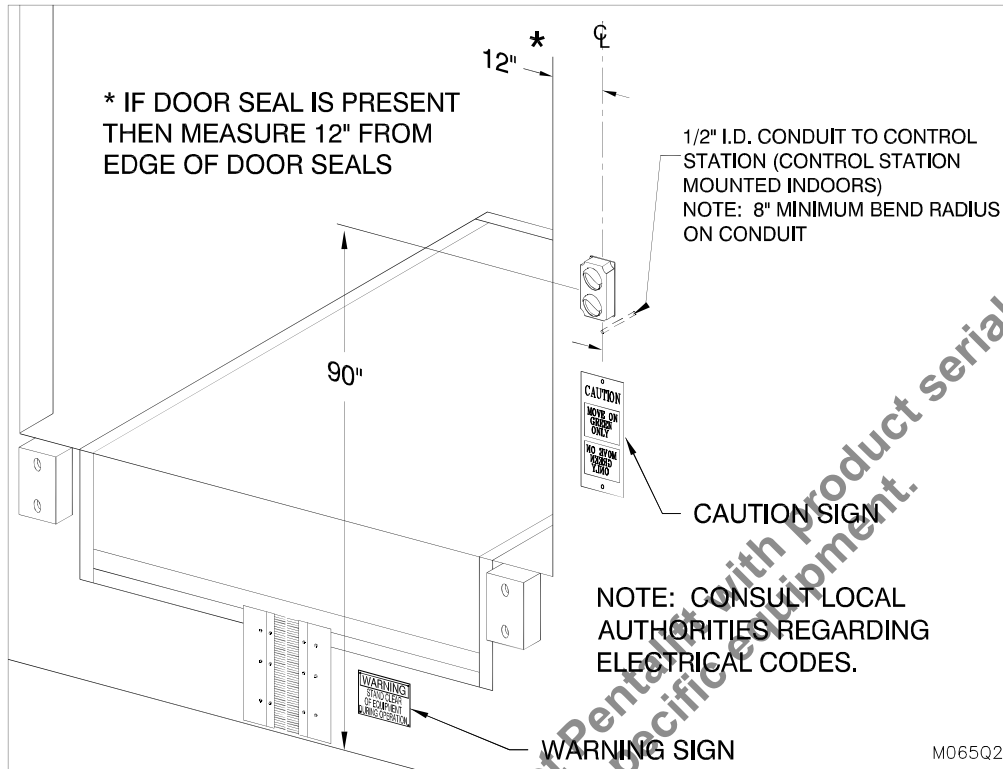

Figure 7: Mount Outside Light and Signs
11. \_\_\_ Mount the outside light approximately 90" from the center of the light to finished driveway level (See Figure 7: Mount Outside Light and Signs on page 11).
12. \_\_\_ Mount the mirror image caution sign above the outside light; the normal vision caution sign below the outside light and the "Warning Stand Clear..." sign centered vertically directly to the right of the Ultrahook (See Figure 7: Mount Outside Light and Signs on page 11).
1.  Install the "Warning, Stand Clear of Equipment During Operation" sign. Lag the sign to the foundation wall on driver side. (See Figure 7: Mount Outside Light and Signs Figure 7: Mount Outside Light and Signs on page 11)